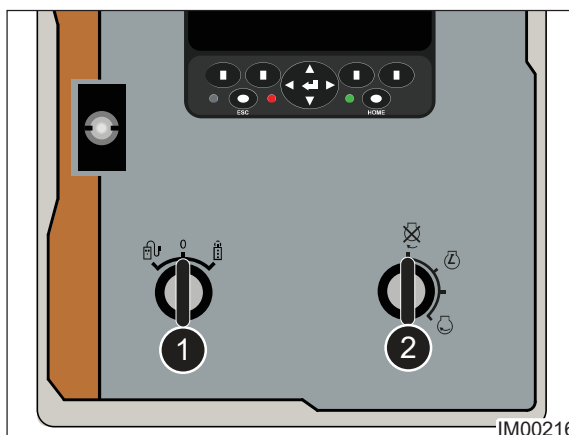

Fig: 9.11 - Control Panel
7. On the control panel, rotate the Handset Switch (Item 1, Fig: 9.11) to the Middle/Off position.
10. Rotate the ignition key (Item 2, Fig: 9.11) Counter-Clockwise to switch off the engine. Remove the key from the ignition and store in a safe location.